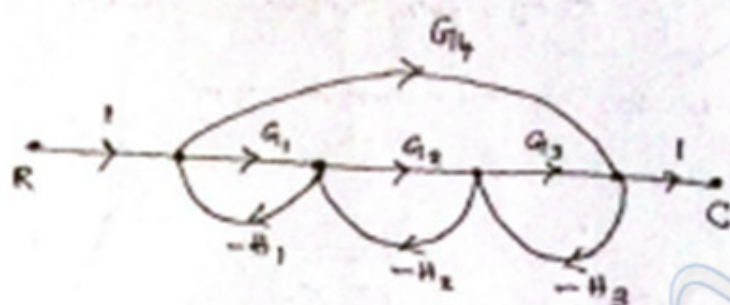

Figure 3
- (b) (i) Obtain the transfer function of a system whose signal flow graph is shown in Figure 3, using Mason's gain formula. (8)